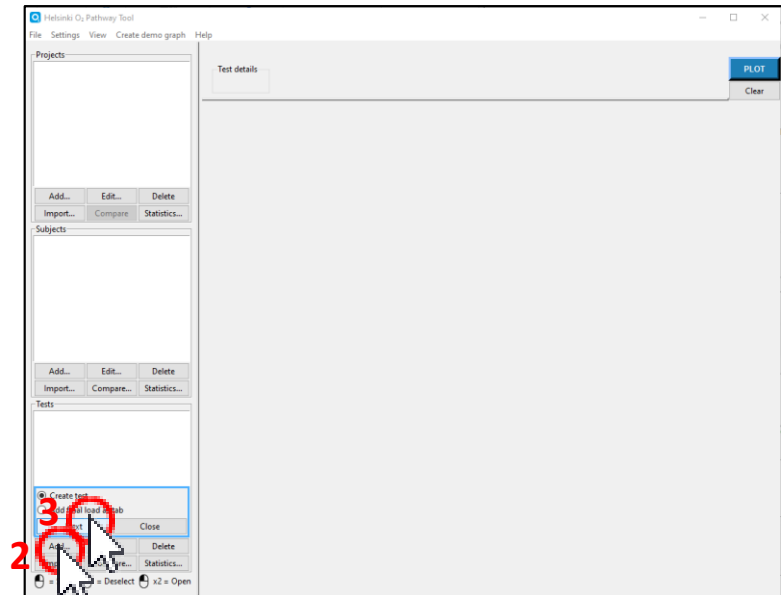

Figure 33
2. Click the "Add..." button in the side panels test module (figure 33).
3. Click the "Next" button in the pop-up window (figure 33).